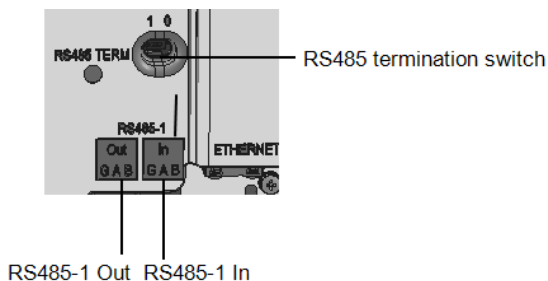

Figure 38: RS485 connectors and termination switch
- Push the RS485 terminal blocks firmly all the way into the connectors on the communication board, see *Figure 38*.
11. Terminate the first and last inverters on the bus by moving the termination switch to ON (left position); See *Figure 38*. The other inverters on the bus should have the termination switch OFF (right position).